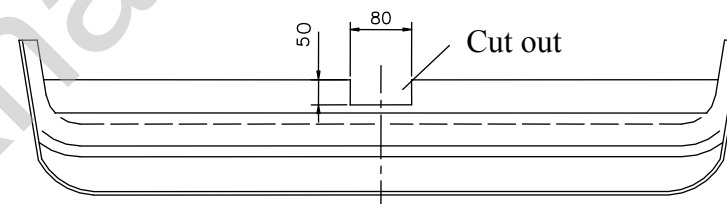

Fig. 2
4. Position the main bar of the towing hitch (pos. 1) to the trunk and fix it with the bracket (pos. 4) through the holes (pos. A) using bolts M10x35mm (pos. 7).
5. Position the sleeves L=58mm (pos. 5) at the bottom of the car, and then fix it through the holes (pos. B) using bolts M10x90mm (pos. 6) and large washers (pos. 8).
6. From the trunk side drill holes $\varnothing 1\text{mm}$ through the towing hitch holes (pos. C) and fix it using bolts M10x35mm (pos. 7) and large washers (pos. 8).
7. Cut the bumper according to fig. 2 and then reassemble it.